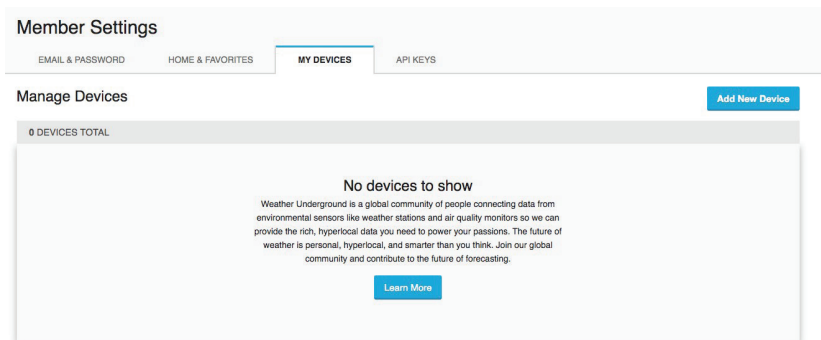

Figure 10-1. *Adding a new device*
4. Click “Add New Device” (Figure 10-1).